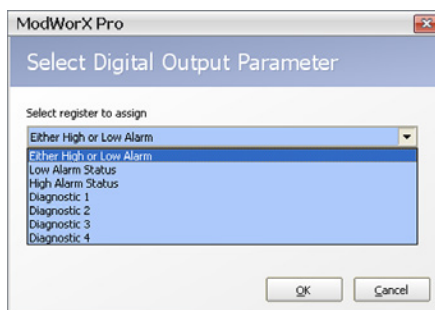

Figure 7.12
3. Click the **Select** button beside the Parameter field and select a digital output parameter from the dropdown list on the dialog screen (Figure 7.12, page 101).